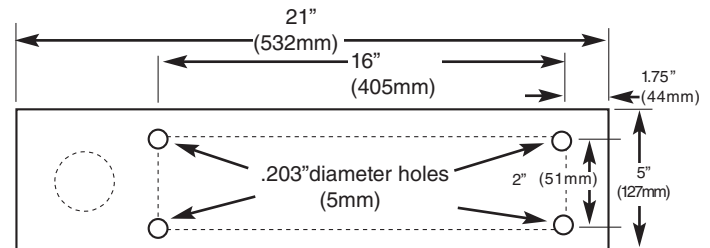

Figure 2: Mounting Dimensions
3. Securely fasten the heater to the wall with screws or bolts using the four (4) pre-drilled holes in the heater back (Figure 2)